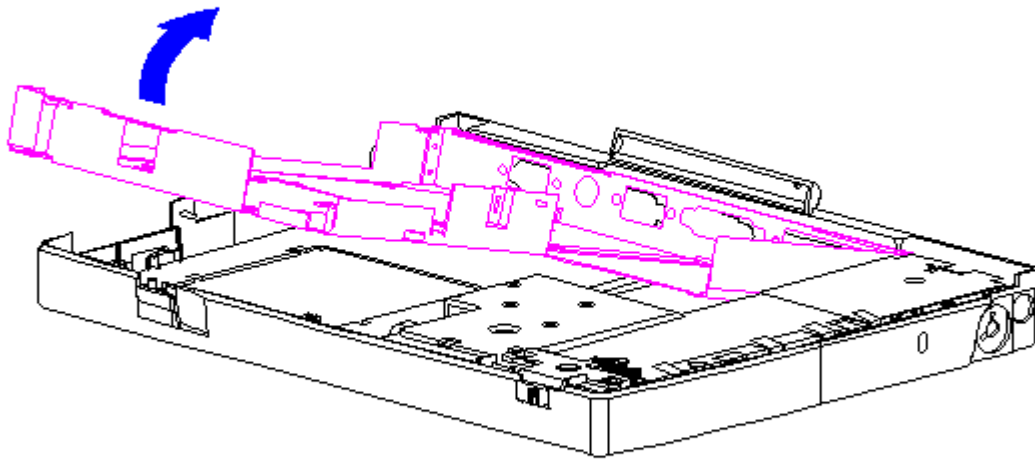

Figure 3-74. Removing the System Chassis (All Models)
10. Remove the system chassis by gently separating it from the CPU base and lifting out the system chassis (Figure 3-74).